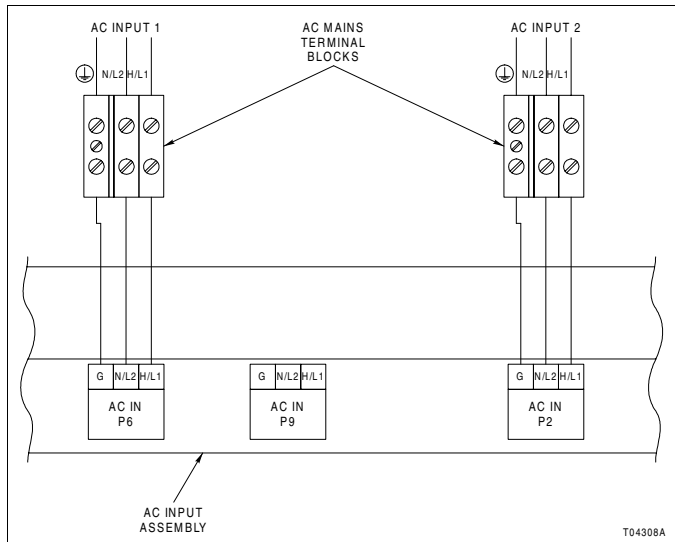

Figure PR7-2. Dual AC Input Source Wiring
2. Connect AC input one and AC input two to the AC mains terminal blocks as shown in Figure PR7-2. Terminate the wires using No. 8 terminal lugs.
- 3. Connect AC input source one to connector P6 of the AC input assembly as shown in Figure PR7-2. The assembly terminals accept stripped wires up to 3.3 square-millimeter (12 AWG).